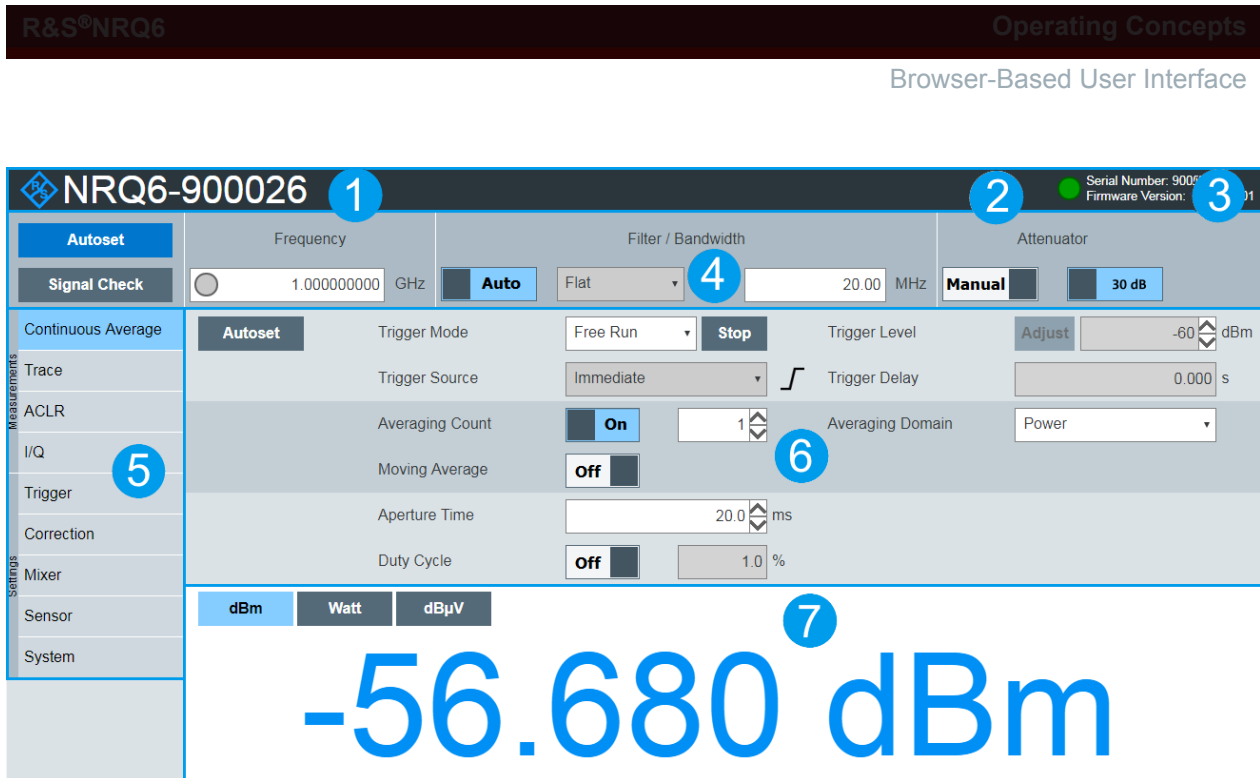

Figure 5-1: Layout of the web user interface
The main dialog of the web user interface opens. See also Figure 5-1.
(1) in Figure 5-1
(2) in Figure 5-1
(3) in Figure 5-1
Top pane(4) in Figure 5-1
See Chapter 7, "Adapting to the Test Signal", on page 49.**Navigation pane**(5) in Figure 5-1
Settings pane(6) in Figure 5-1
Result pane(7) in Figure 5-1